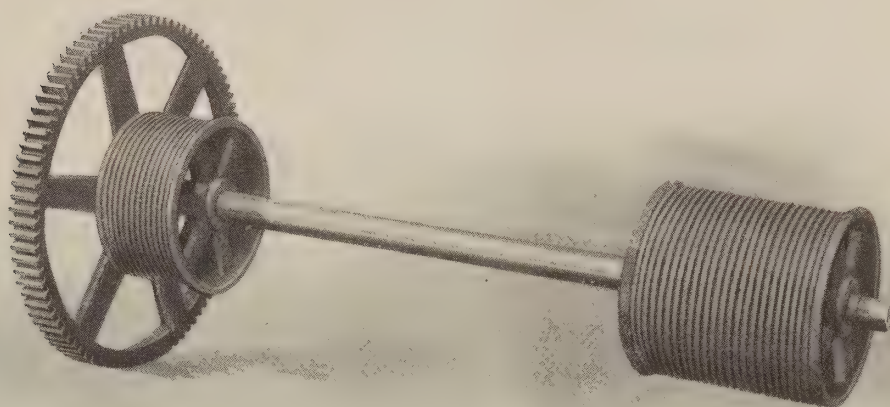

Figure 4. Gear and Drum.
**P**ARTICULAR attention is drawn to the gear and drums shown in figure 4.